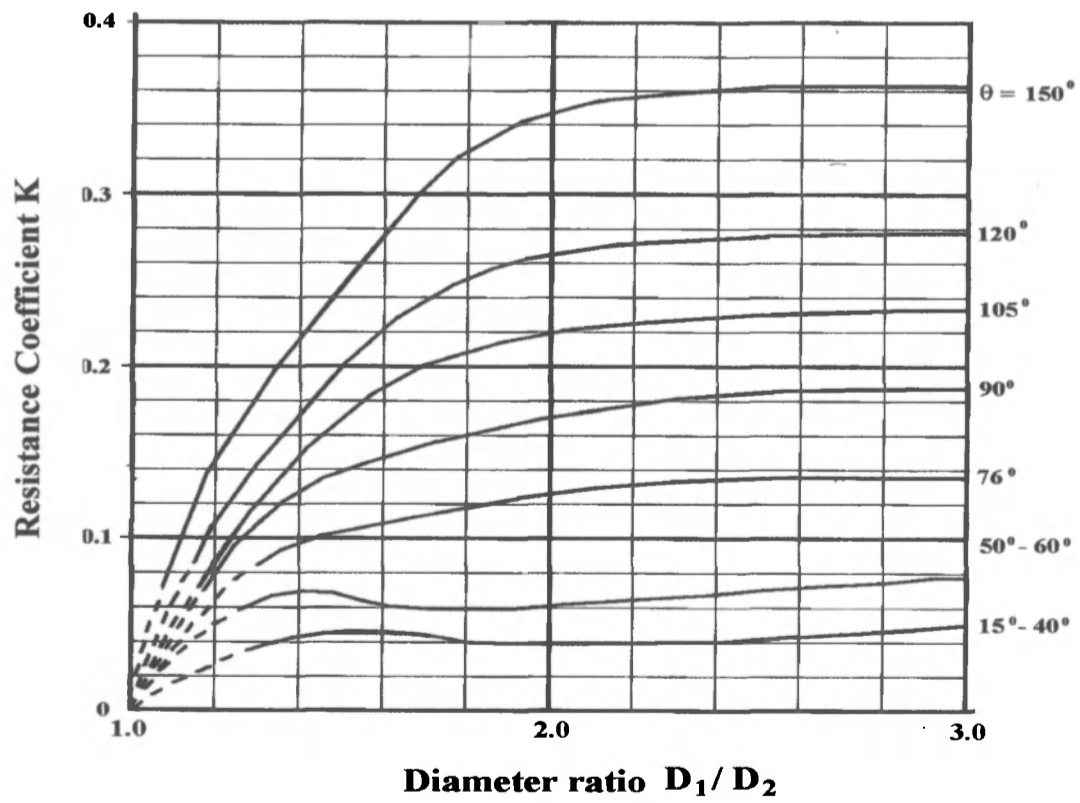

Figure Q4(b)
- (b) Determine the energy loss for a gradual contraction from a 4-in pipe to a 1 1/2-in pipe for a flow rate of 250 gall/min by using the information from Figure Q4(b). The cone angle for the contraction is 76° . (1 gall = 3.7854 litre, 1 in = 25.5mm)
- (c) On a farm, water at 15°C is delivered from a pressurized storage tank to an animal watering trough through 91.44 m of 1 1/2-in steel pipe ($e = 4.5 \times 10^{-5}$ m) as shown in Figure Q4(c). If kinematics viscosity and density of water at 15°C are 1.14×10^{-6} m^2/s and $999 \text{ kg}/\text{m}^3$ respectively, calculate the required air pressure above the water in the tank to produce 283.875 L/min of flow.